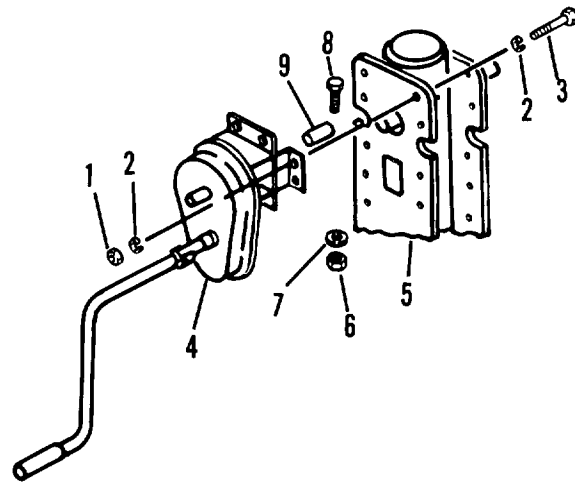

Figure 4-43. Gear box
- (1) Remove nut (6, figure 4-43), washer (7) and bolt (8) from coupling.
- (2) Remove four nuts (1), eight washers (2) and four bolts (3).
- (3) Remove gear box (4) from leg (5). If required, remove additional nut (6), washer (7) and bolt (8) to remove coupling.
- (1) Install gear box (4, figure 4-43) on leg (5).
- (2) Secure gear box (4) with four bolts (3), eight washers (2) and four nuts (1). Torque nuts to 150-160 lb ft (204-218 Nm).
- (3) Secure gear box coupling (9) with screw (8), washer (7) and nut (6).